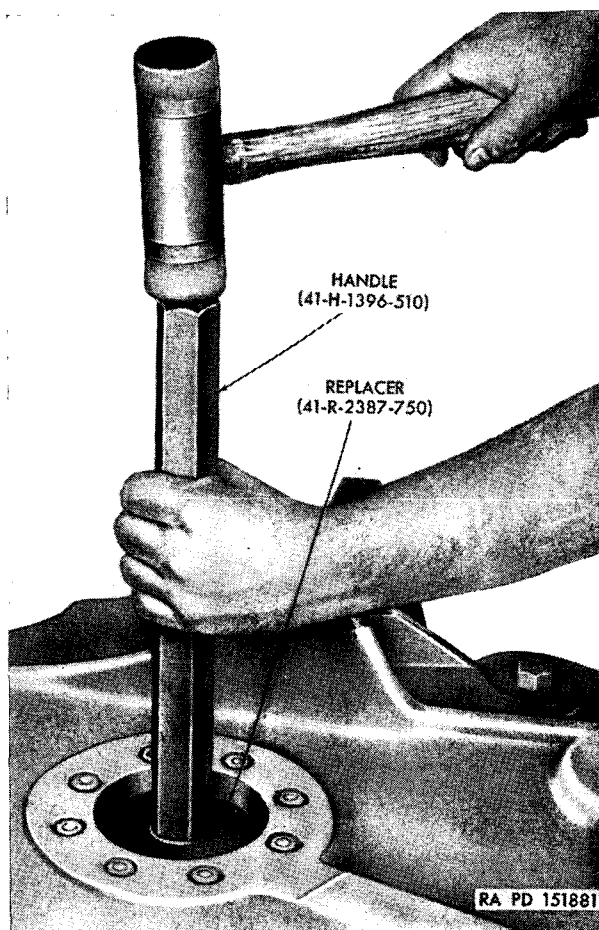

Figure 142. Replacing output-flange bushing.
- (5) Do not remove the two bushings from the hub unless defective. If it is necessary to remove them, the output-shaft bushing can be pressed out but the output-flange bushing must be cut out. Replace the output-flange bushing with replacer (41-R-2387-750) and handle (41-H-1396-510) (fig. 142) and replace the output-shaft bushing by pressing it in. Then the bushings must be bored to size.